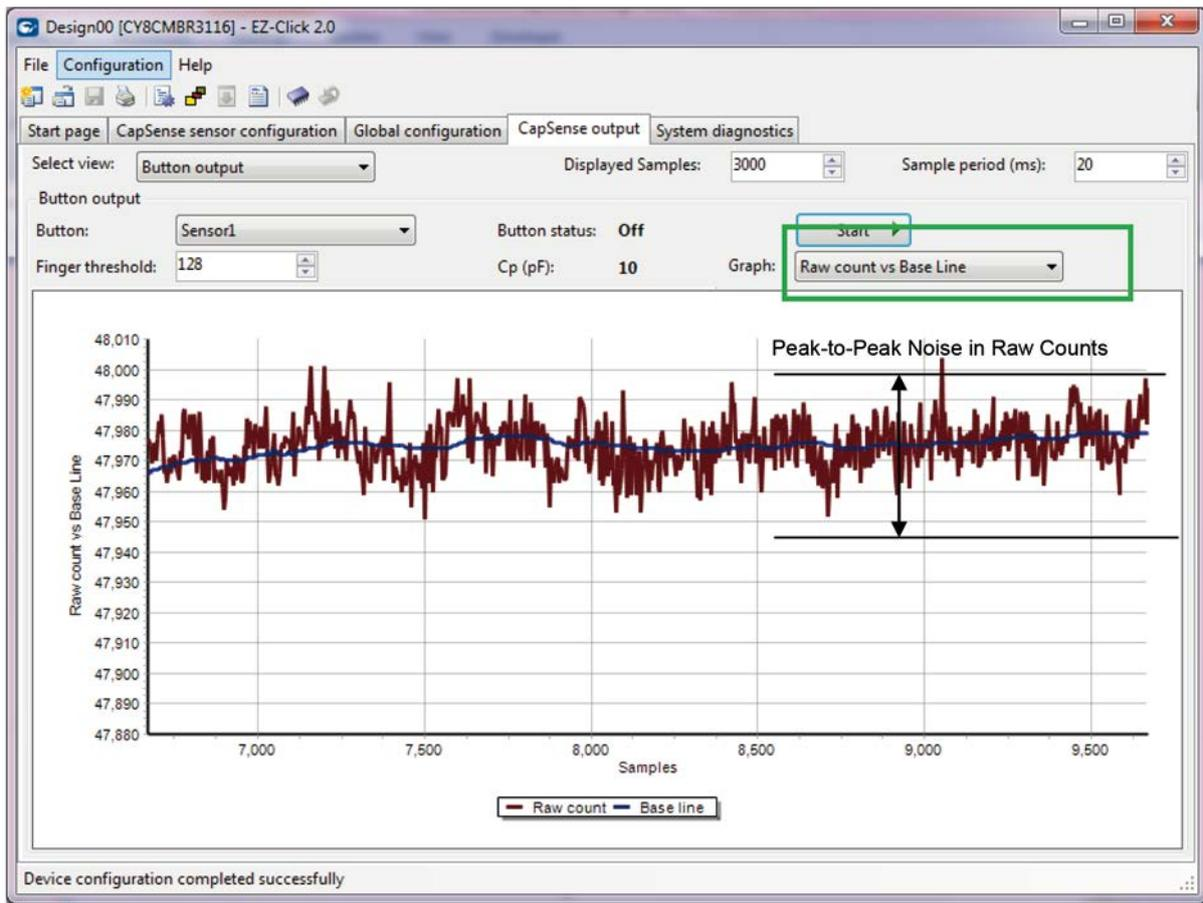

Figure 6-7 Measuring Noise Counts of Proximity Sensor When ALP Filter is Disabled
3. After the signal is greater than 50 counts, measure the noise counts, as shown in Figure 6-7. If the noise is greater than one-fifth of the signal, enable the ALP filter to reduce the noise.
1. Disable the ALP filter and measure the peak-to-peak noise in raw counts for 3000 samples, as Figure 6-7 shows. See the Noise Counts Measurement section for more details.